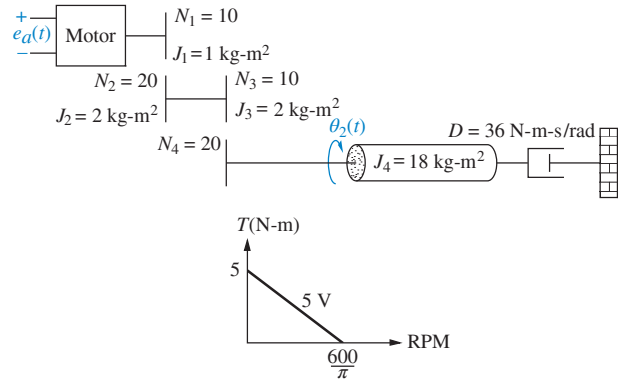

FIGURE P2.31
46. The motor whose torque-speed characteristics are shown in Figure P2.31 drives the load shown in the diagram. Some of the gears have inertia. Find the transfer function,  $G(s) = \theta_2(s)/E_a(s)$ . [Section: 2.8]